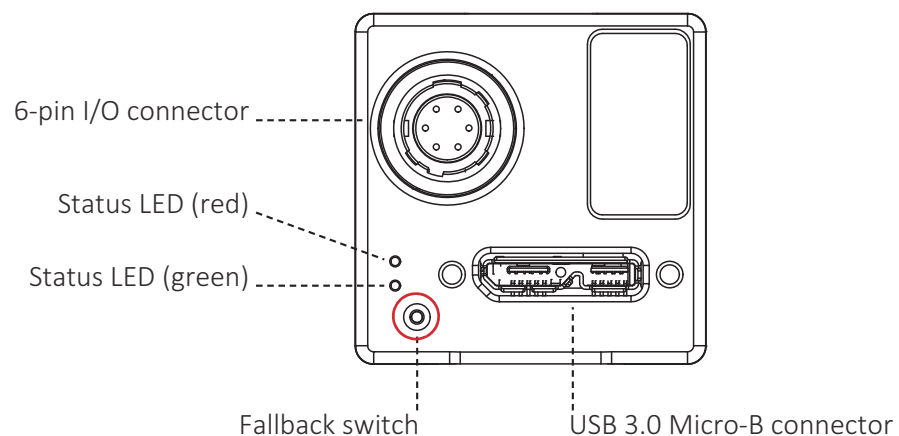

Figure 46: Mako U back panel view with fallback switch
3. Push a paper clip against the fallback switch (see Figure 46).